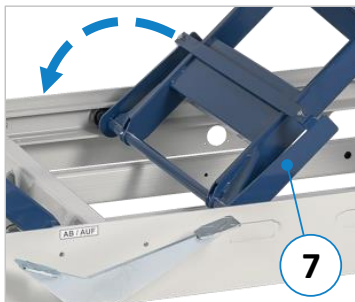

Figure 21: Safety catch
To secure the platform, fold the safety catch (7) all the way down in the direction of the arrow (see ⇒ Figure 21).
Move the lift table upwards until the safety catch (7) can be folded over. Then fold the safety catch all the way down as shown in ⇒ Figure 21. Subsequently lower the lift table until the safety catches engage in the corresponding catch points and the hydraulic cylinder is relieved resp. accessible for removal.